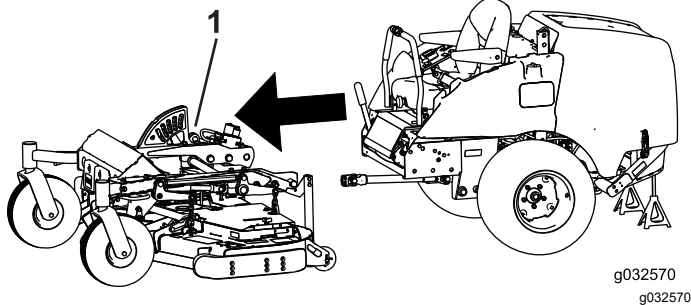

Figure 59
8. Roll the summer frame forward and store it for seasonal changeover (Figure 59).